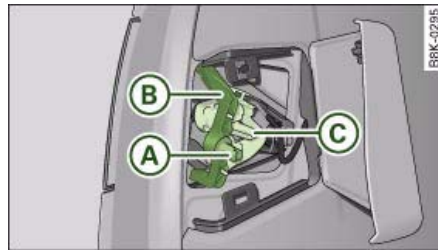

Fig. 279 Boot lid: Removing bulb carrier
- Using the screwdriver, unscrew the nut ⇒ fig. 279 (A) in the anti-clockwise direction and remove the nut and the retaining clip (B).
- Release the retaining tab (C) and remove the bulb holder from the light unit.